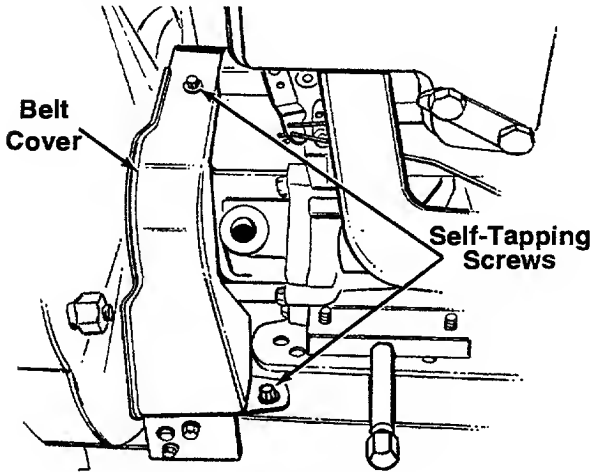

Figure 16
3. Remove the plastic belt cover on the front of the engine by removing the two self-tapping screws. See Figure 16.
1. Remove the plastic belt cover on the front of the engine by removing two self-tapping screws. Refer to Figure 16.